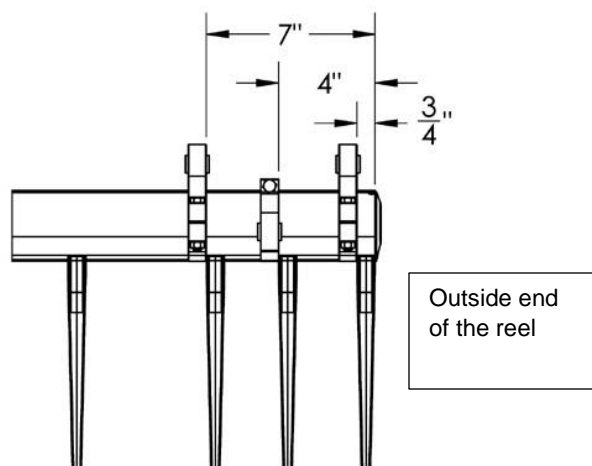
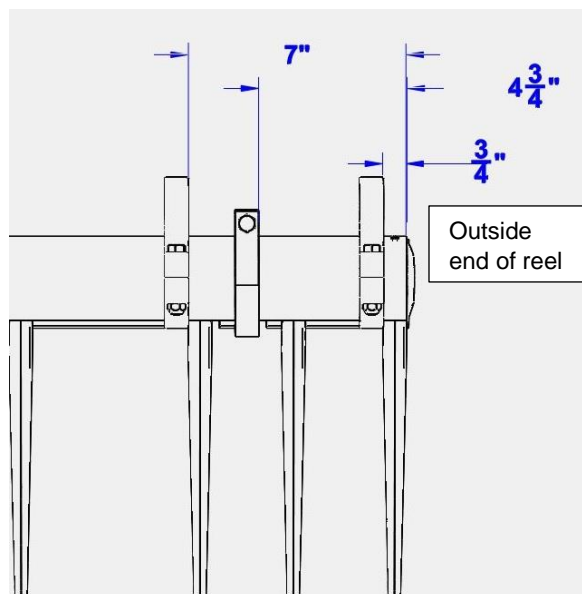

Figure 195 Standard Reel
Figure 196 Cam Reel
3. When installing the spider clamps on the reel tube the spacing should be checked. This will aid in assembling the reel bat back on the spiders. Make certain the dimensions for the clamps on the cam end of the reel are as shown in. Figure 195 for the standard Reel and Figure 196 Cam Reel. The only difference between the Standard reel and the Cam reel is the dimension for the control knuckle clamp.